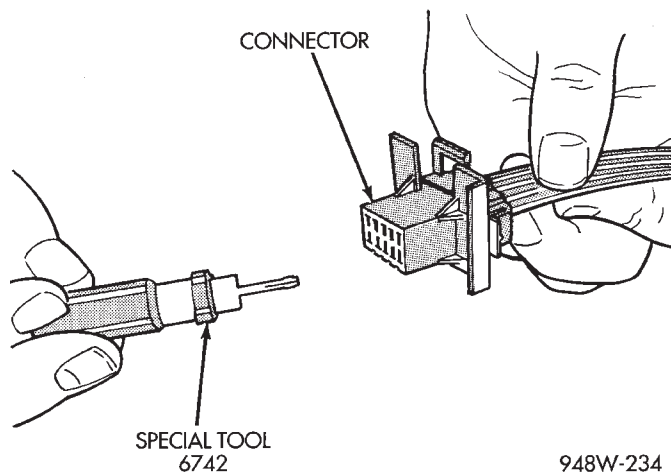

Fig. 14 Molex Connector Repair
- (1) Disconnect battery.
- (2) Disconnect the connector from its mating half/component.
- (3) Insert the terminal releasing special tool 6742 into the terminal end of the connector (Fig. 14).